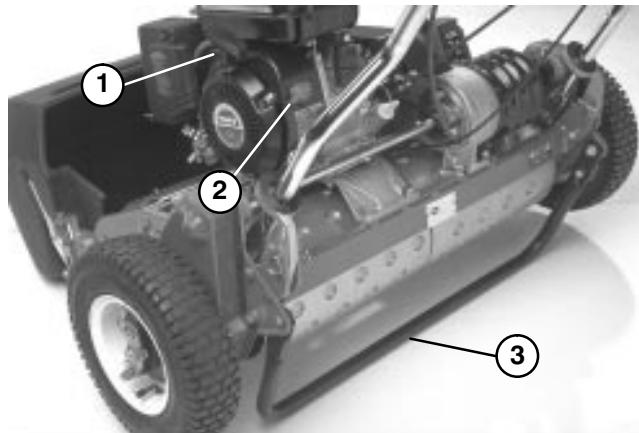

Figure 21
Recoil Starter (Fig. 21) - Pull recoil starter handle to start engine.
On/Off Switch (Fig. 21) - Located on rear of engine. Move switch to ON position to start engine and Off to stop engine.
Kick Stand (Fig. 21) - Mounted to rear of machine, kickstand is used to raise rear of machine for installation or removal of transport wheels.
3. Move ON / OFF switch (Fig. 21) to ON position .